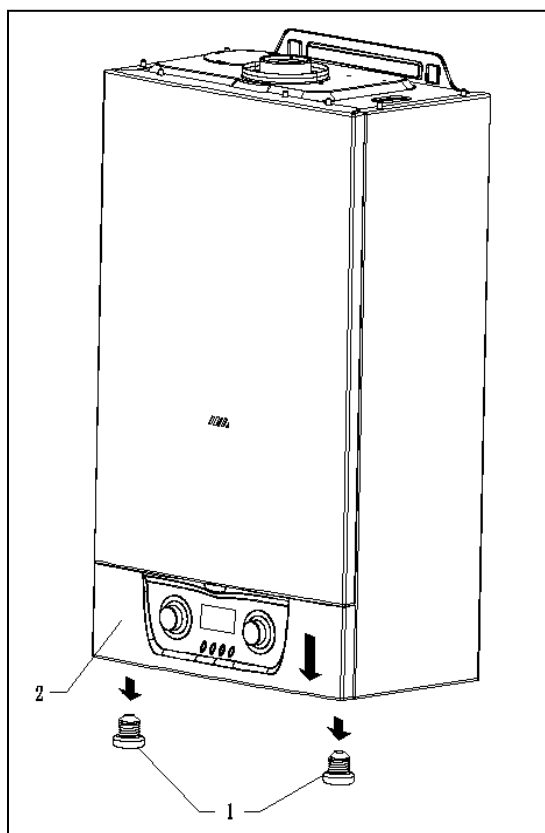

Рис. 17
- unscrew 2 bolts at the bottom of the control panel (pos. 1 fig. 17);
- pull the control panel down to expose the clamping screws fixing the surface of the shell (2 in Fig. 17);